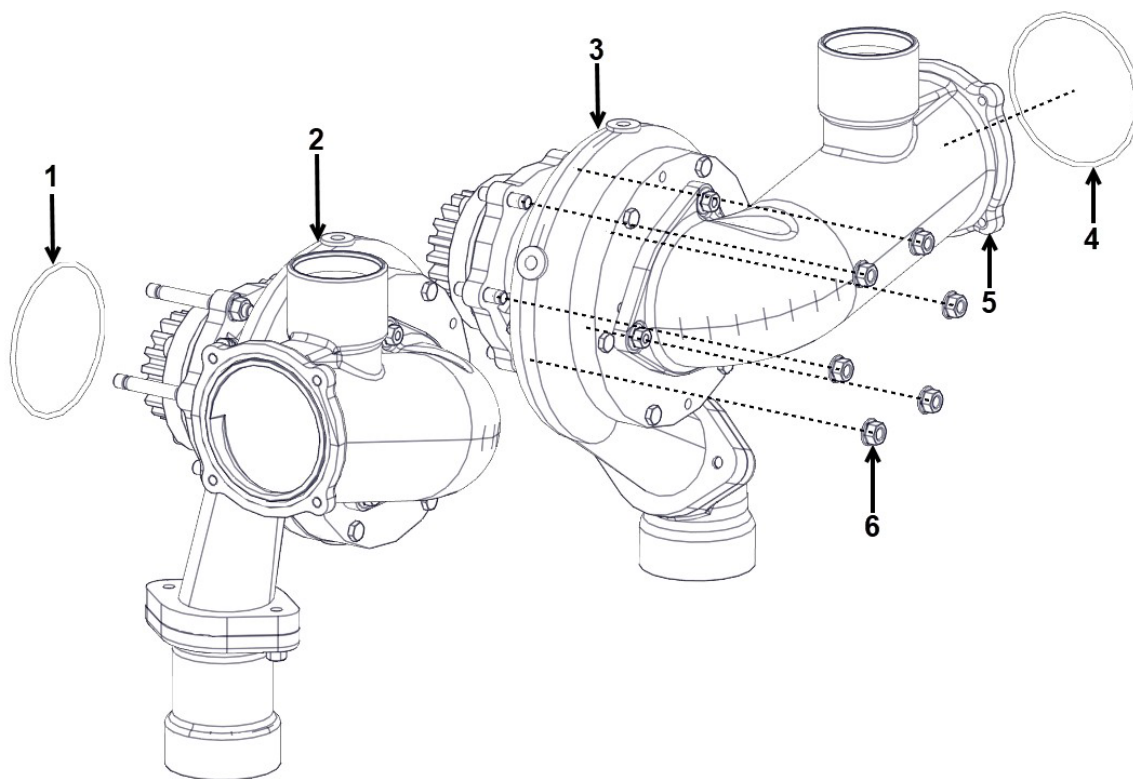

Figure 23. Water Pump Assembly
3. Loosen and remove the six nuts (Figure 23, Item 6) on both water pumps.
4. Remove both water pumps carefully (Figure 23, Items 2 & 3).
5. Remove both O-rings (Figure 23, Item 1).
2. Install new O-rings (Figure 23, Items 1 & 4) onto both water pumps.
3. Carefully install both water pumps (Figure 23, Items 2 & 3).
4. Insert and torque down the six bolts (Figure 23, Item 6) to 25 ft/lbs on each water pump.